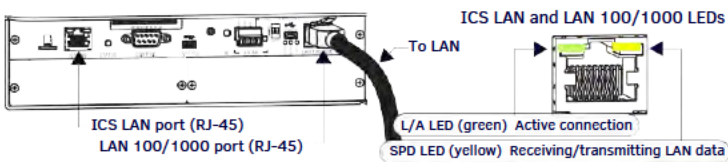

FIG. 4 CPU WITH LAN 100/1000 PORT (RJ-45) AND INDICATOR LEDs
4. Check the indicator LEDs on the LAN 100/1000 port (FIG. 4 right).